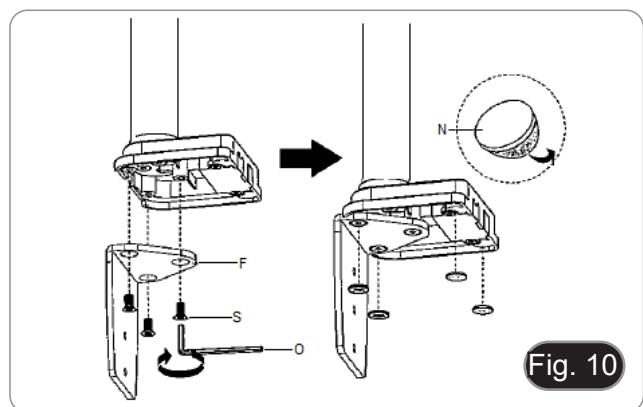

Fig. 10
2. Attach the clamp holder (F) to the table clamp (C) using the three screws (S). (Fig. 10)
3. Stick the rubber damps (N) to the table clamp.